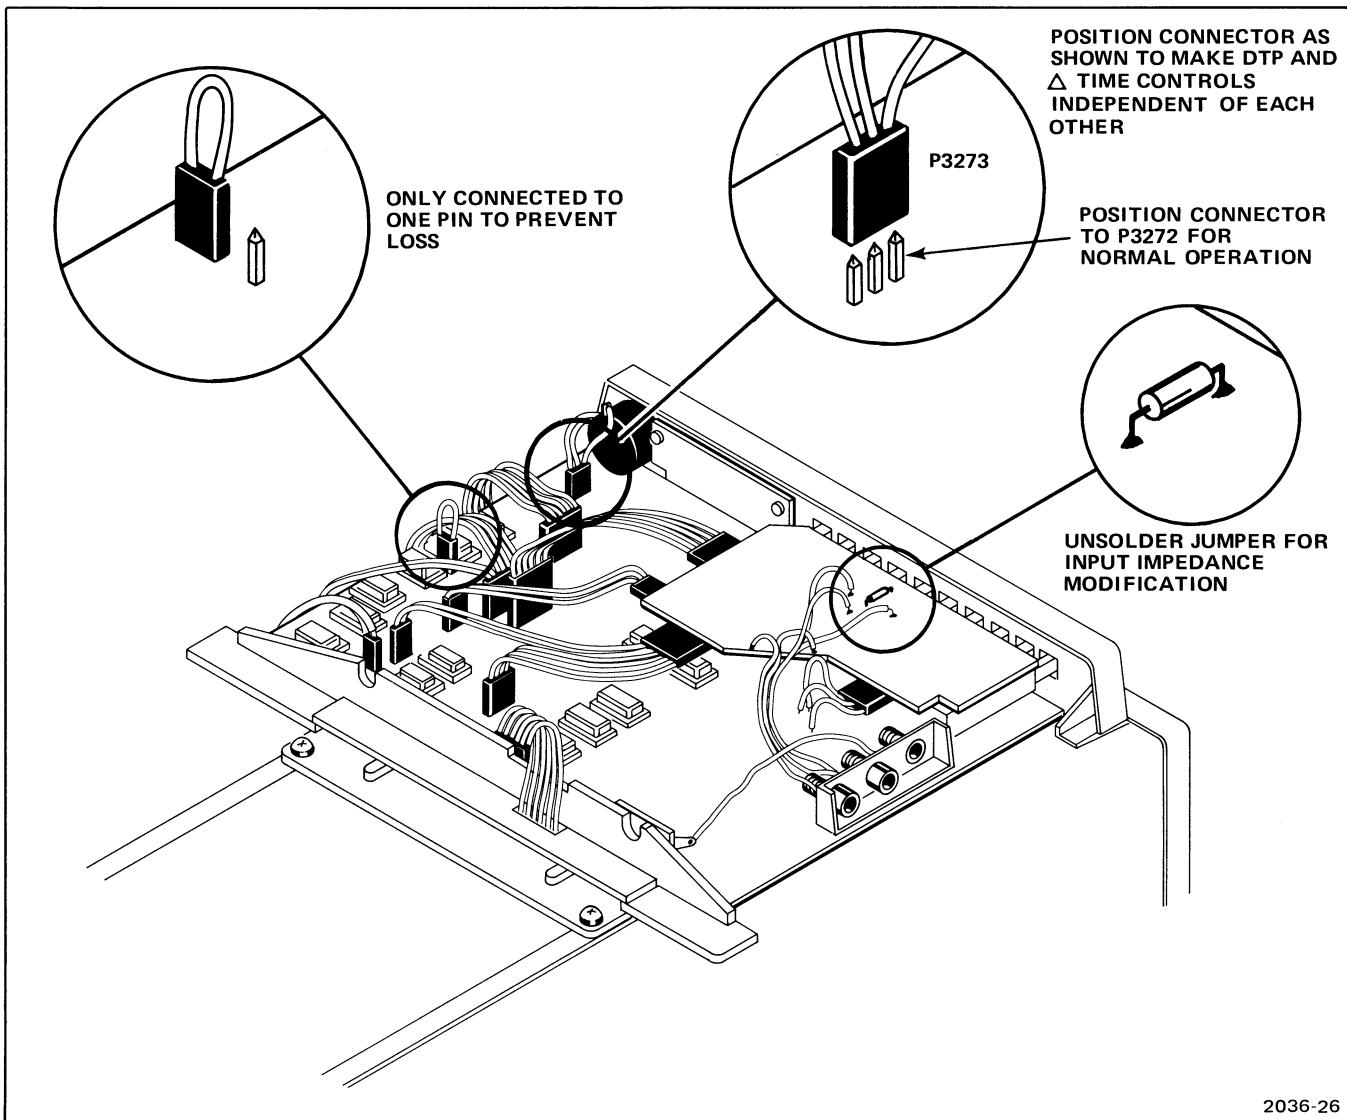

Figure 5-2. User modification.
2. Unsolder and remove the wire strap as shown in Figure 5-2.
2. Disconnect the connector from P3272 and connect it to P3273 (see Figure 5-2).